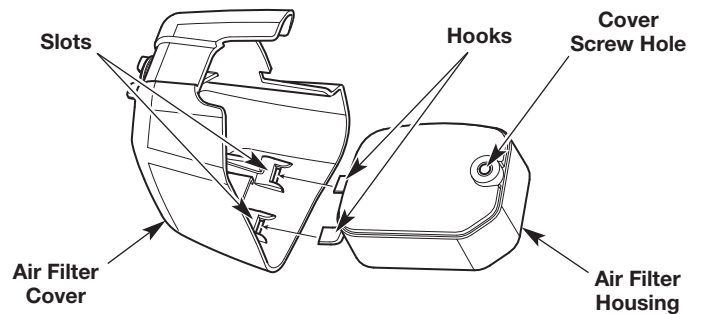

Fig. 19
7. Insert the hooks on the air filter housing into the slots on the air filter cover (Fig. 19).
8. Swing the air filter cover to the right and align the cover screw with the cover screw hole (Fig. 19). Tighten the cover screw to secure the air filter cover.